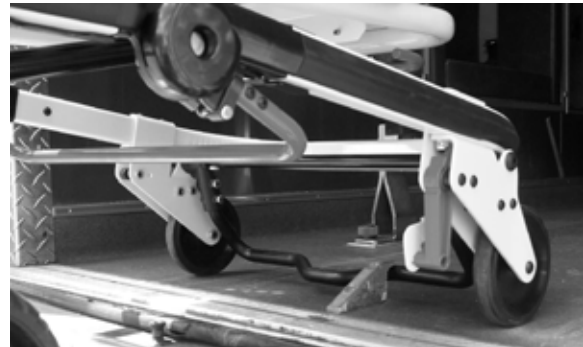

Figure 16 - Safety Bar Engaging Safety Hook
2. Push the cot forward until the loading wheels are on the patient compartment floor and the safety bar passes the safety hook (Figure 16).